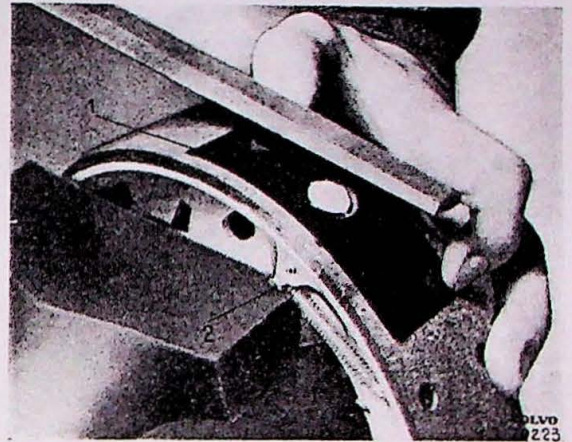

Fig. 21.
With the contact plug in its outer position fit the brake shoe in a vice with the lever projection (2, Fig. 21) resting against one vice jaw. This is to ensure that the plug cannot be pushed in during adjustment and in this way cause it to be faulty.
Place the adjuster jig (1) over the contact plug and then file until the plug is flush with the jig, see Fig. 21. The plug should then be 0.1 mm (.04") over the surface of the lining.